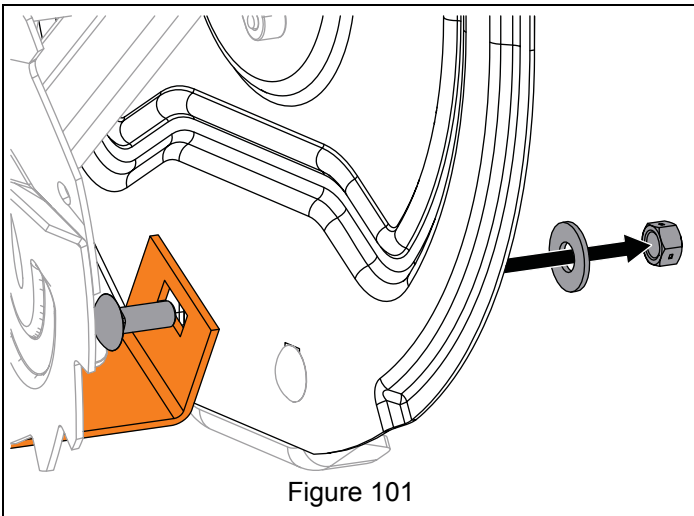

Figure 101
3. Remove hardware securing scraper blade ends to auger housing. See Figure 101.